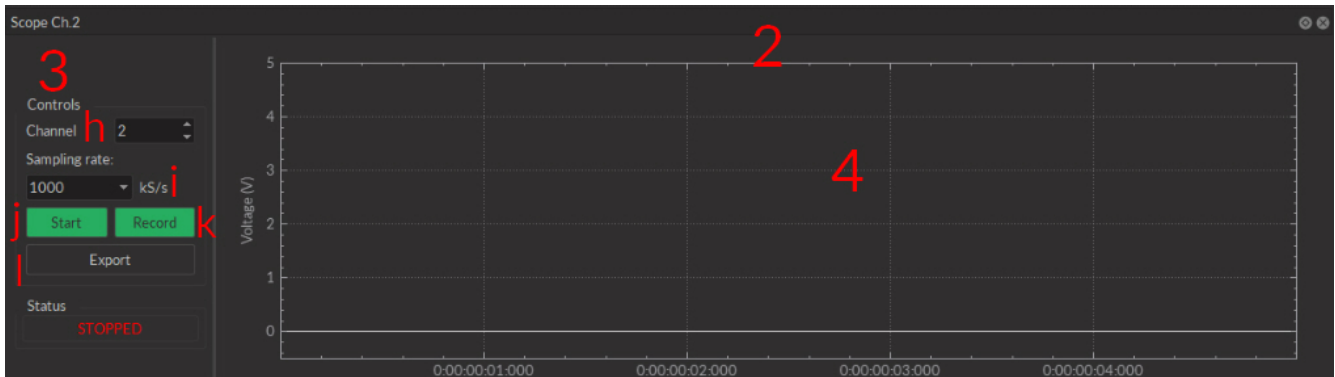

Figure 4.14: *Experiment View, Scope Channel*
2. The **Scope Channel** box (Fig. 4.14) is used to control and configure an active **Scope**.